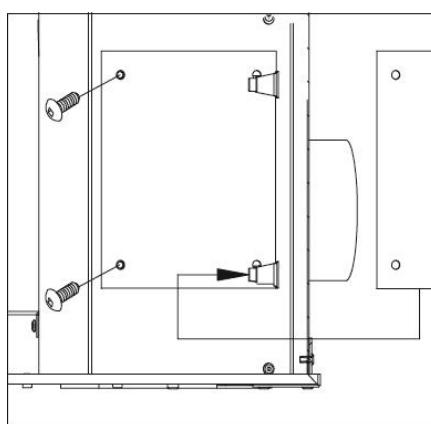
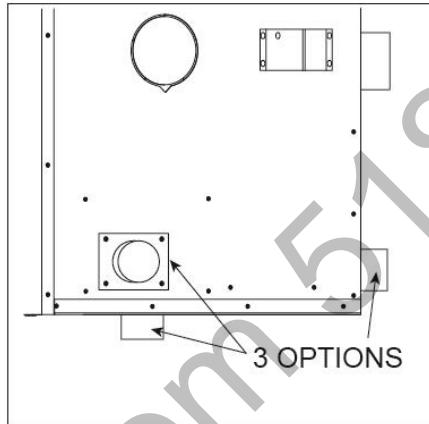

Figure 39
Figure 38
3. Select which air inlet you wish to use figure 38 (you may use more than one) and either remove the cover figure 39 (side inlet) or remove the knock-out (bottom and rear inlets).